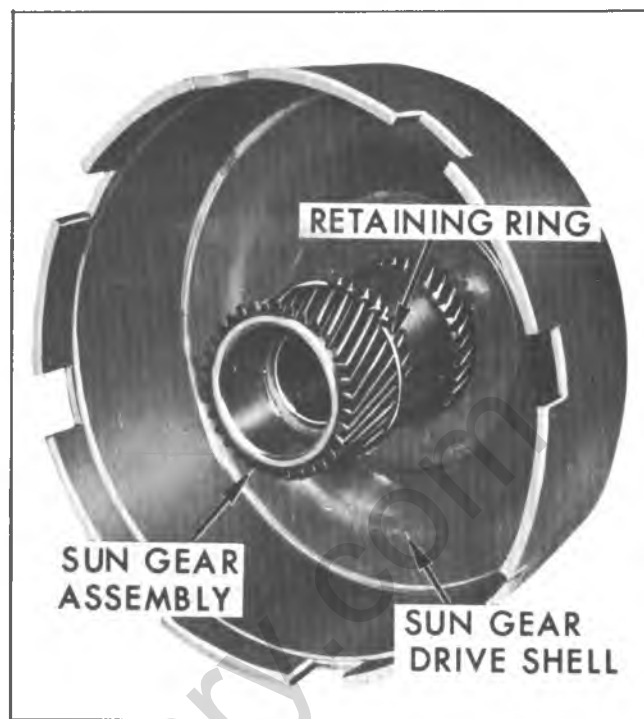

Fig. 88M-Removing Sun Gear to Drive Shell Front Steel Thrust Washer
4. Remove sun gear to drive shell front retaining ring (fig. 88M). Discard retaining ring.